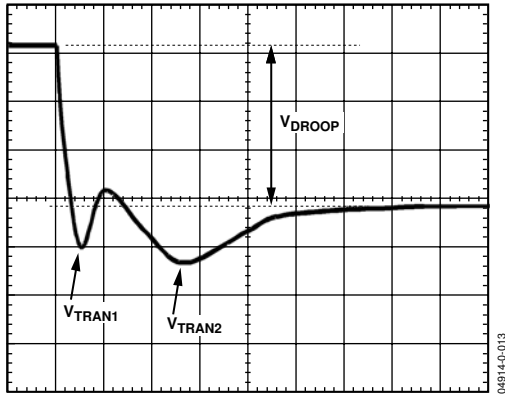
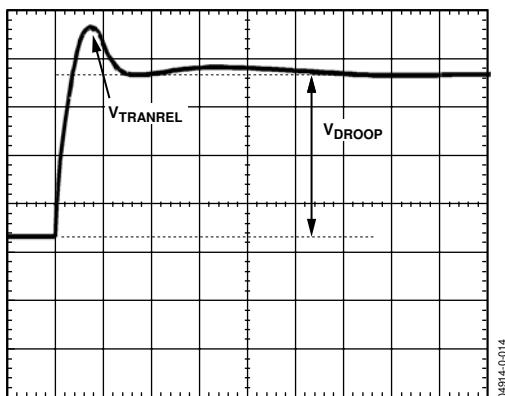

Figure 13. Transient Setting Waveform
Figure 14. Transient Setting Waveform
- With the dynamic load still set at the maximum step size, expand the scope time scale to see $2\ \mu\text{s}/\text{div}$ to $5\ \mu\text{s}/\text{div}$. The waveform may have two overshoots and one minor undershoot (see Figure 13). Here, V_{DROOP} is the final desired value.
- For load release (see Figure 14), if V_{TRANREL} is larger than V_{TRAN1} (see Figure 13), there is not enough output capacitance. You need more capacitance or you have to make the inductor values smaller. (If you change inductors, you need to start the design again using the spreadsheet and this tuning procedure.)